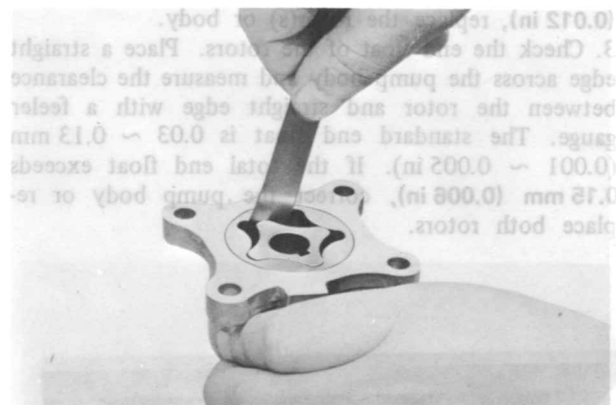

Fig. 2-3 Checking rotor clearance
1. Check the clearance between the lobes of the rotors with a feeler gauge, as shown in Fig. 2-3. The standard clearance is 0.01 ~ 0.09 mm (0.0004 ~ 0.0035 in). If the clearance exceeds 0.15 mm (0.006